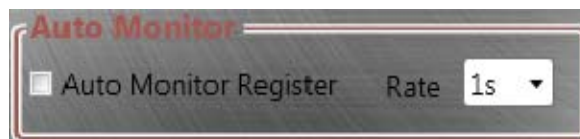

Figure 9: Resistor Auto-Monitor
- The resistor auto-monitor can also be set using this program (see Figure 9).